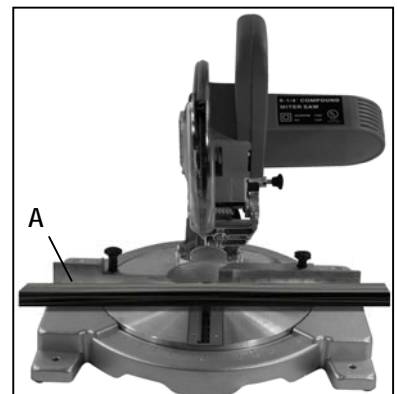

Figure 2
Place the material (A, Figure 2) on the machine bed and place it tight against the straight guide, assuring that it doesn't move during the cut. If necessary, use clamps to hold it in place.
To make miter cuts, loosen the two rotary table-locking knobs (A) and move the rotary table to the desired angle, then retighten the knobs. Figure 2 shows the rotary table at a 45° angle.